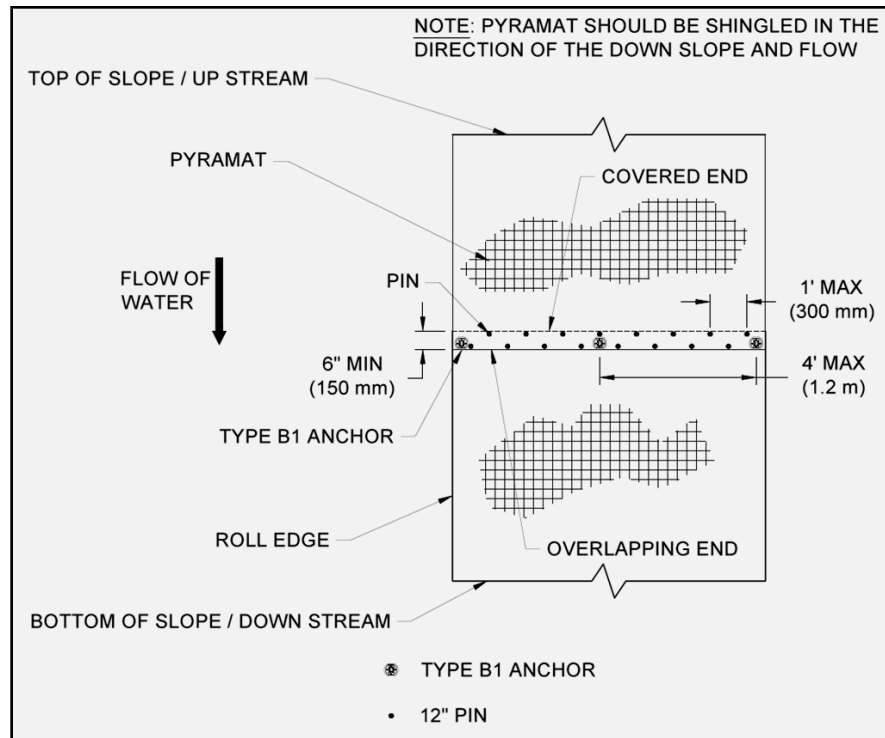

Figure 22: Roll End Overlap
- Roll ends shall be overlapped a minimum of 6 in (150 mm) with upstream panel on top. Secure roll end overlaps with two rows of pins staggered 6 in (150 mm) apart on 12 in (300 mm) centers and with one row of PDEAs on 4 ft (1.2 m) centers (Figure 22)